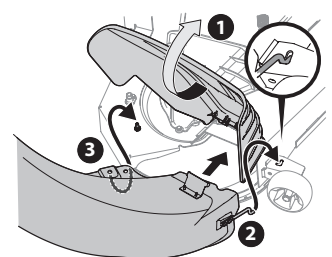

Figure 19
2. Raise the chute deflector (1 in Figure 19) on the deck and hold it while you position the discharge chute over the chute opening.
3. Insert the end of the discharge chute elbow (2) into the hole provided in the deck wheel mount as shown in the inset of Figure 19.
4. Pivot the discharge chute rearward until the hole in the discharge chute elbow aligns with the pin on the deck. Move the discharge elbow down onto that pin as shown in 3 of Figure 19.